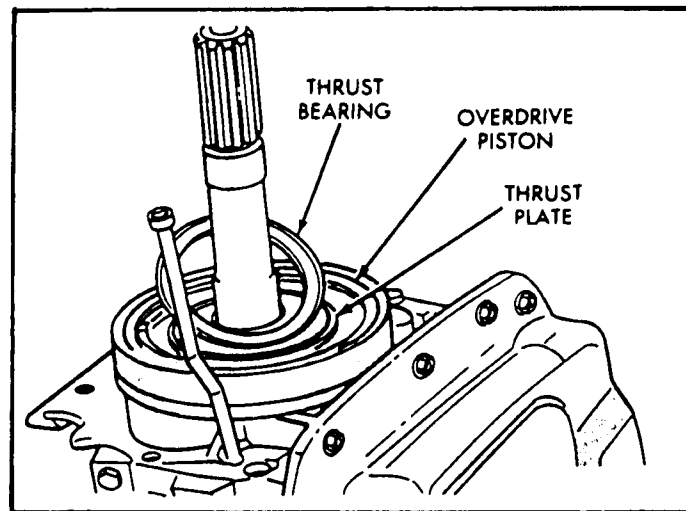

Figure 154
63. Install selective thrust plate on the overdrive piston and retain with a liberal amount of Trans-Jel, as shown in Figure 154.
64. Install thrust bearing on top of the selective thrust plate with the black side facing the piston, and retain with a liberal amount of Trans-Jel, as shown in Figure 154.